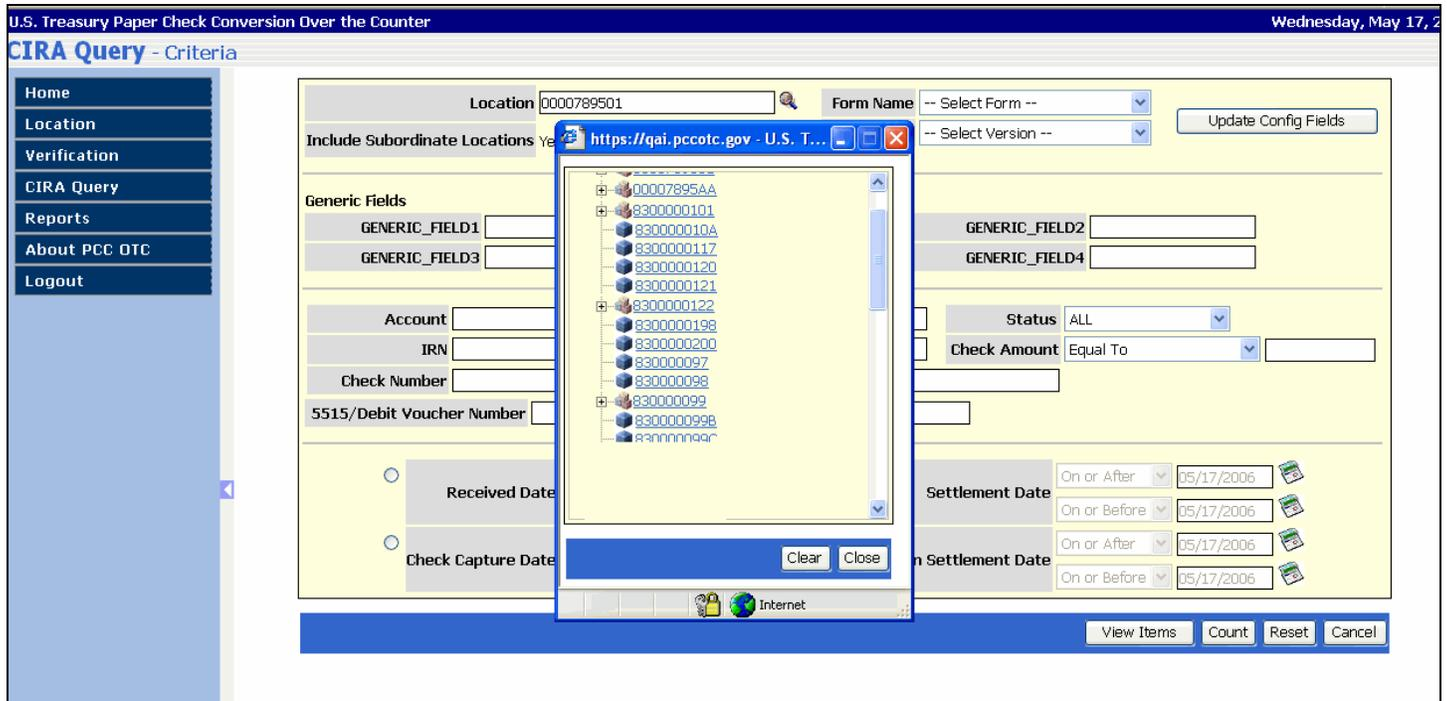

Figure 5.29
2. Type the ten digit A L C+2 of the location or click on the search tool to the right of the 'Location' field to search for the A L C+2 (if you have access to see activity for multiple locations). The following window will appear with the list of authorized locations: (Figure 5.29)